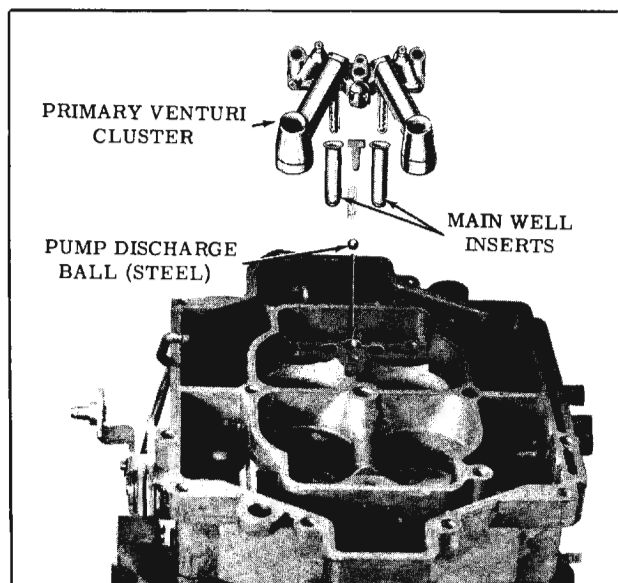

Fig. 9-11 Pump Discharge Spring, Guide and Main Well Inserts
8. Remove the main well inserts. (Fig. 9-11)
15. Remove the small "T" shaped pump discharge spring guide with needle nose pliers, then remove the small spring and steel ball. (Fig. 9-11)